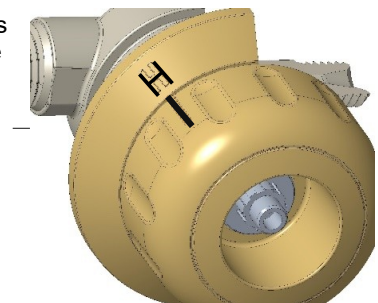

Fig .6.1
- Slowly turn the cartridge arm all the way to the left " H" (see Fig.6.1) or match the arrow inside the valve body (see fig.6.2) .